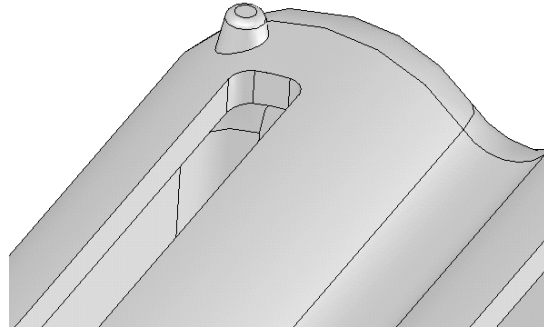

Figure 9-51 Rotated and zoom view of the model to show the standoff
- Create the standoffs using the extrude and **Fillet** tool, and pattern the standoffs, refer to Figure 9-51.
The rotated and zoom view of the complete standoff is displayed in Figure 9-51.